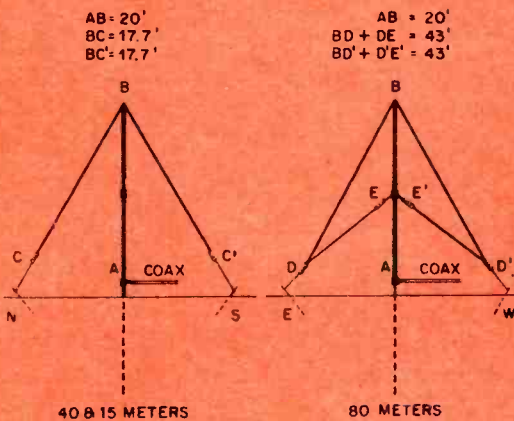

Fig. 2—Diagrams show approximate lengths for all sections. Guys BC and BC' operate on 40-15 meters; guys BDE and BD'E' are for 80 meters.
detail in a moment, should be about 14-gauge wire. Be sure to space them roughly 90 degrees apart around the mast. The directional letters (N, S, E, W) in Figs. 2 and 4 are merely to remind you of the 90-degree spacing.
The lengths of the four guys are shown in Fig. 2. To arrive at the proper length for a  $\frac{1}{4}$ -wave against ground, divide your operating frequency in megacycles into 234 (using what is called the 234 Formula). Just for the record, the complete formula we're dealing with
The diagram at the right in Fig. 2 indicates that two of the guys should be 43 feet long. When you add the length of the guy (43) to the height of the mast (20), you get 63 feet, which is exactly what the formula gives you as the length of a  $\frac{1}{4}$ -wave element cut for the center frequency of the 80-meter Novice band.
Fig. 4—How the Mainmast is rigged. Dimensions for the guy wires may be found in Fig. 2. Note that the 40-15 meter guys run straight to ground stakes, 80-meter guys double back to guy ring.